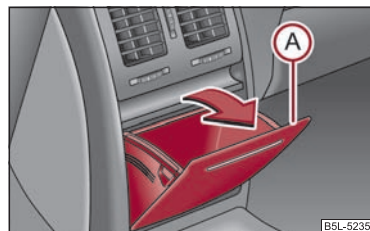

Fig. 95 Centre console at rear: Storage compartment
- Open the storage compartment by pulling on the upper edge of the storage compartment (A) ⇒ fig. 95 in the direction of arrow.